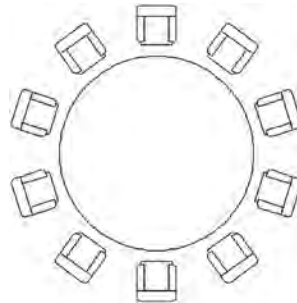

FIGURE 8.3
Step 6. Your array is essentially done, so just press Enter to accept. If you wish, experiment with some of the variables such as Fill and Between. Also note how the chairs are rotated to face the table via the Rotate Items button that was automatically set (under Properties tab). You can, of course, turn that feature off. The completed polar array is shown in Figure 8.3.